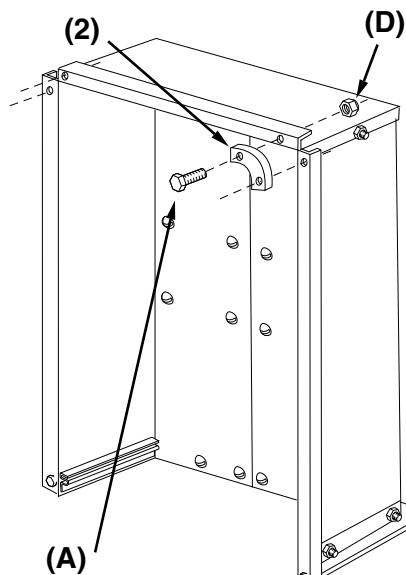

Figure 10
STEP 10 (SEE FIGURE 10): Attach the front corner caps (2) to the front of the cart bed using four 1/4" x 5/8" hex bolts (A) and 1/4" nylock nuts (D).